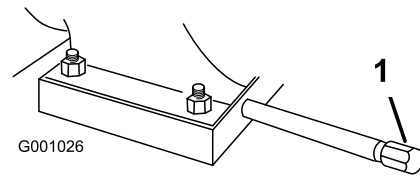

Figure 48
1. Clean the area around the oil drain cap (Figure 48).